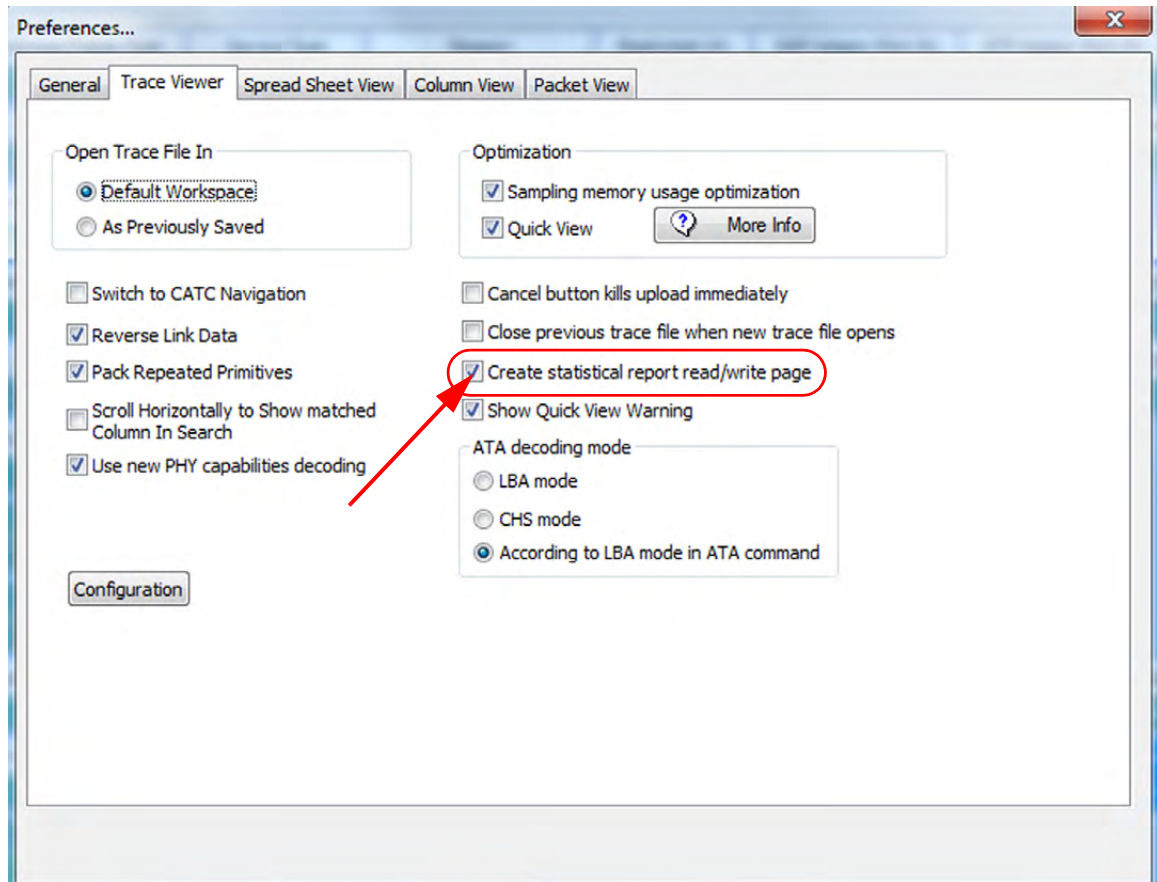

Figure 3.46: Enabling Read/Write Statistical Report.
3. Check the box **Create statistical report read/write page** (see Figure 3.46 on page 151.)